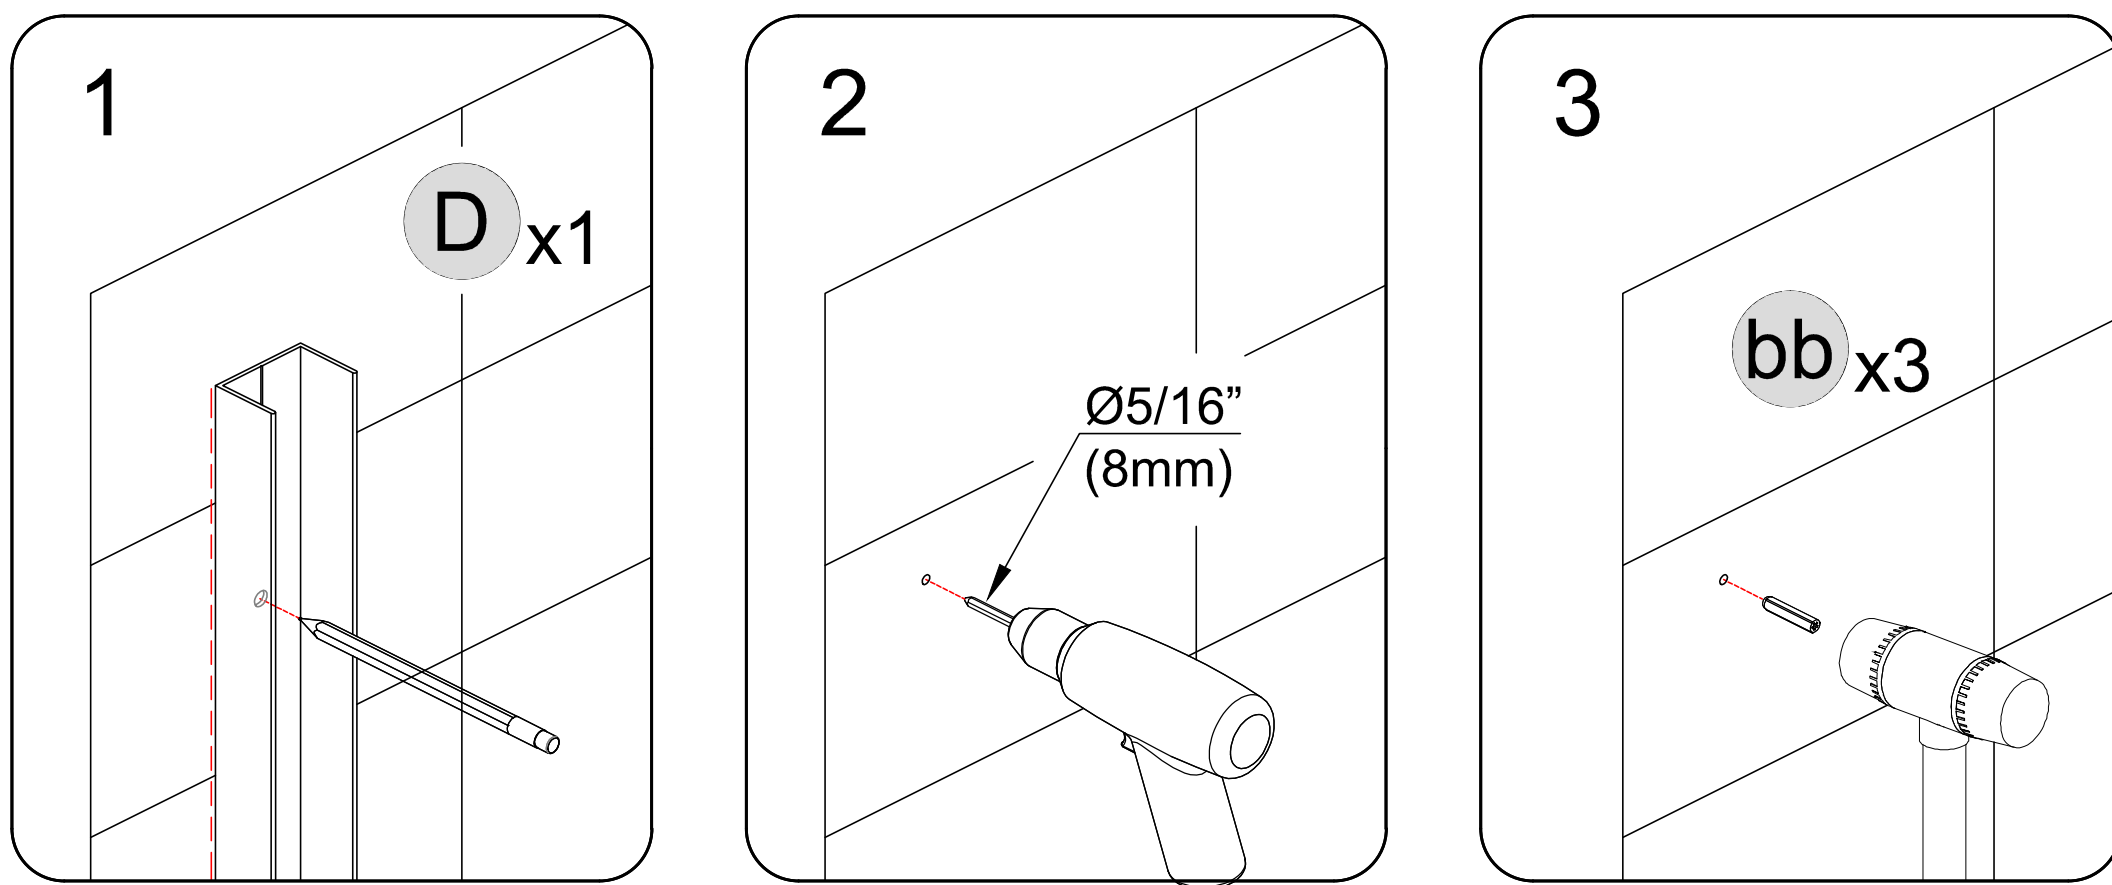

Fig 8
Move the frame assembly aside and remove the **Wall Jamb (D)**. Put **Wall Jamb (D)** back to the position marked in the previous step, and then mark the required hole. Drill the holes into the walls using a  $\text{Ø}5/16''$  (8mm) drill bit and insert the **Wall Anchors (bb)**. Repeat this process for the opposite wall jamb. (Fig 8)